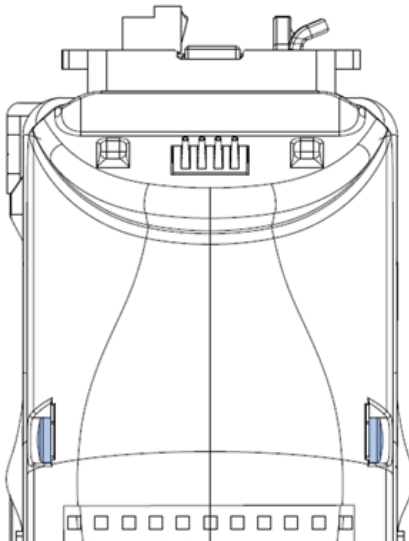

Figure 58: Correct depth of both inserted metal pins. They must not stick out.
5. Fully insert both pins. They should not protrude from the backstrap housing (Figure 58).